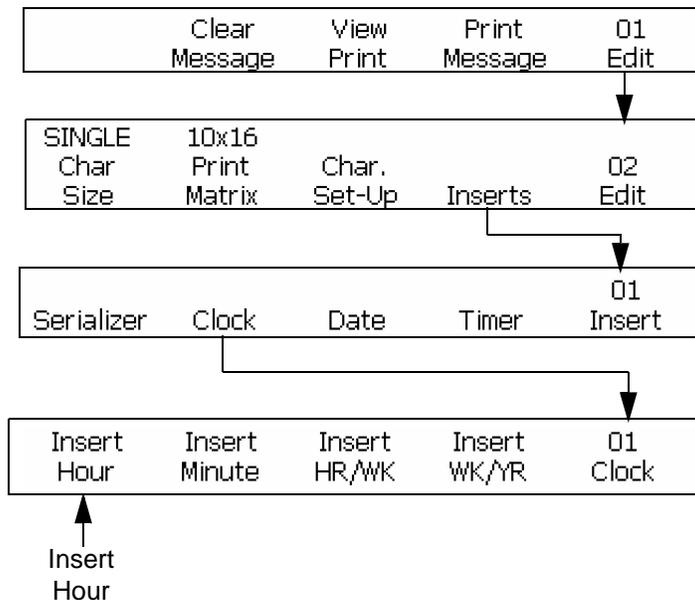

Figure 6-25: Accessing Frame <01 Clock>
- 1 Begin in the Frame <01 Clock>. Refer to Figure 6-25.